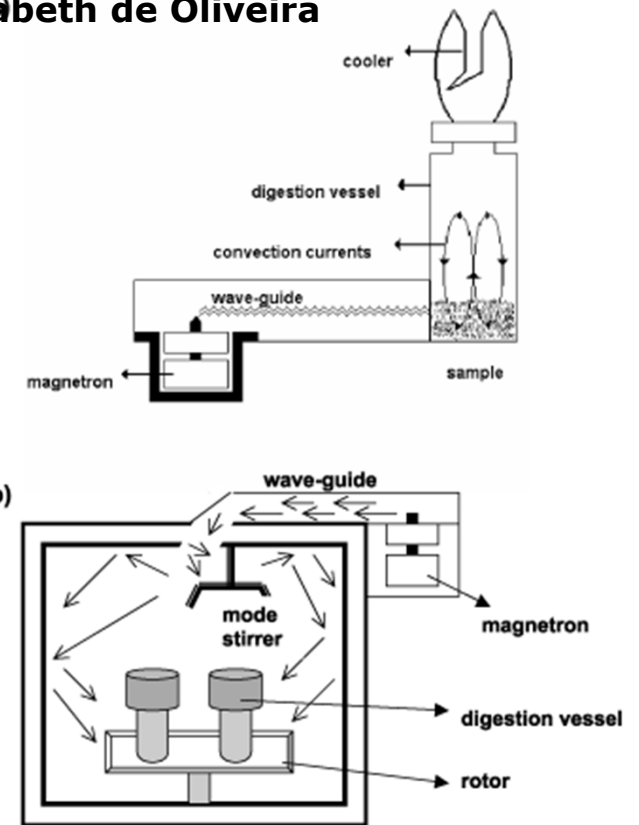

Figure 3. Microwave Digestion System: a) waveguide type and b) cavity type.
- Both a focused microwave oven (a wave-guided type microwave digestion system) and a conventional microwave oven (a cavity microwave digestion system) are presented in Figure 3. Both are available commercially